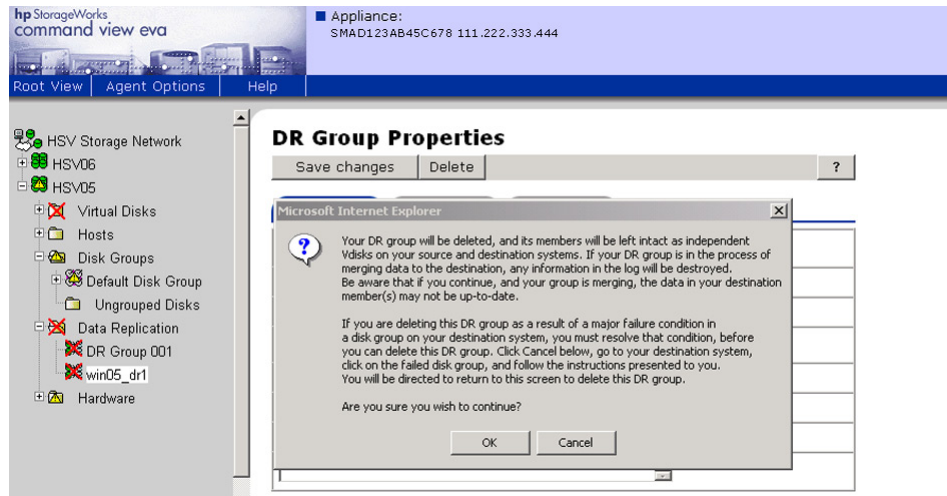

Figure 53: Message confirming DR group deletion
6. Click an affected DR group. A message is displayed (see Figure 53) to inform you that a DR group is being deleted.